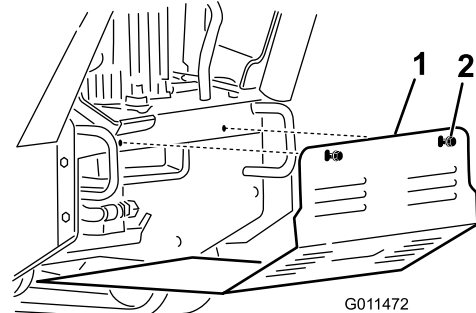

Figure 26
2. Loosen the two bolts securing the bottom shield sequentially until the shield is free (Figure 26).
2. Slide the bottom shield into the machine so that it rests on all 4 tabs (Figure 26).